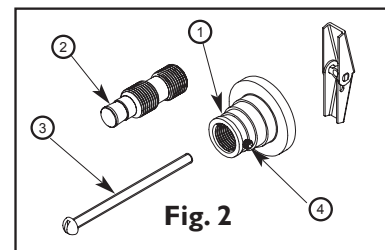

Fig. 2
3. Loosen the SETSCREWS (4) in FLANGES (1) and remove POSTS (2). Fasten FLANGES (1) to wall using either WOOD/TOGGLE SCREWS (3). (See Fig. 2)